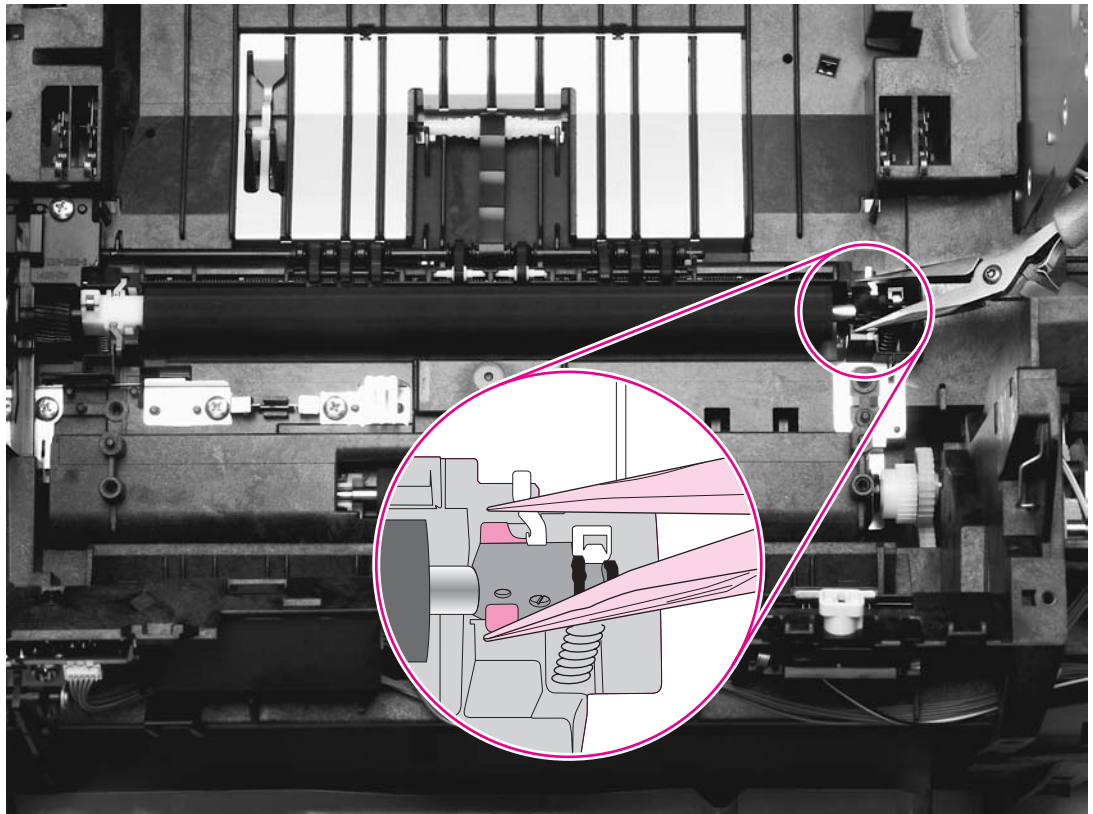

Figure 5-52. Removing the transfer roller
2. Use needle-nose pliers to gently squeeze the small tabs at the right side of the transfer roller (see the detail in Figure 5-52. Removing the transfer roller) and then also squeeze the tabs at the left side of the transfer roller to release the roller.